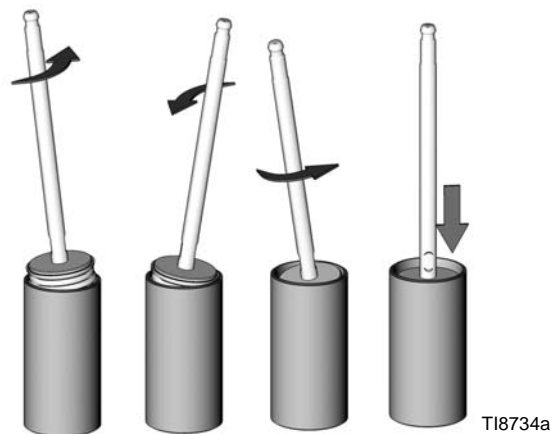

FIG. 7. Install Piston in Cylinder
8. Lubricate the inside of the cylinder (4). Slide the piston assembly into the cylinder. Rotate the piston as shown in FIG. 7.